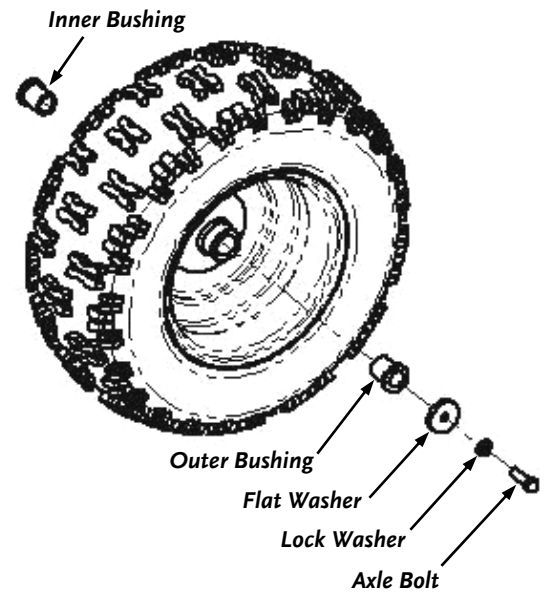

Figure 32
1. With the weight of the machine on the wheel, loosen (counterclockwise) the Axle Bolt (**Figure 32**) with a 9/16" Wrench or Socket.